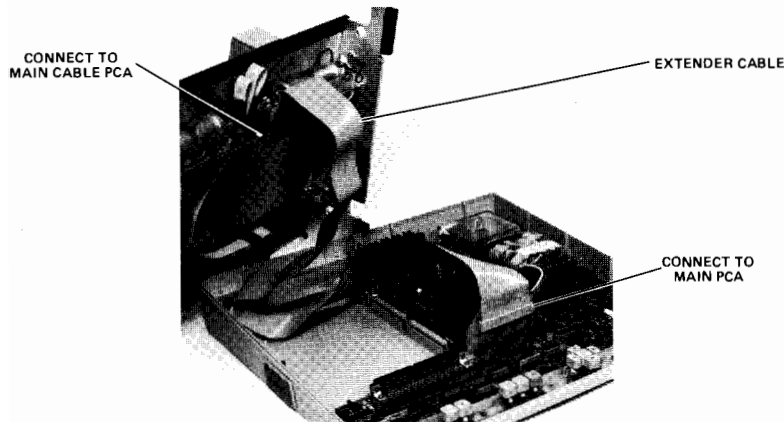

Figure 3-16. Extender Cable Installation
- c. Install the extender cable between the upper and lower deck assemblies observing the caution notice on the extender cable connector. (See Figure 3-16.)